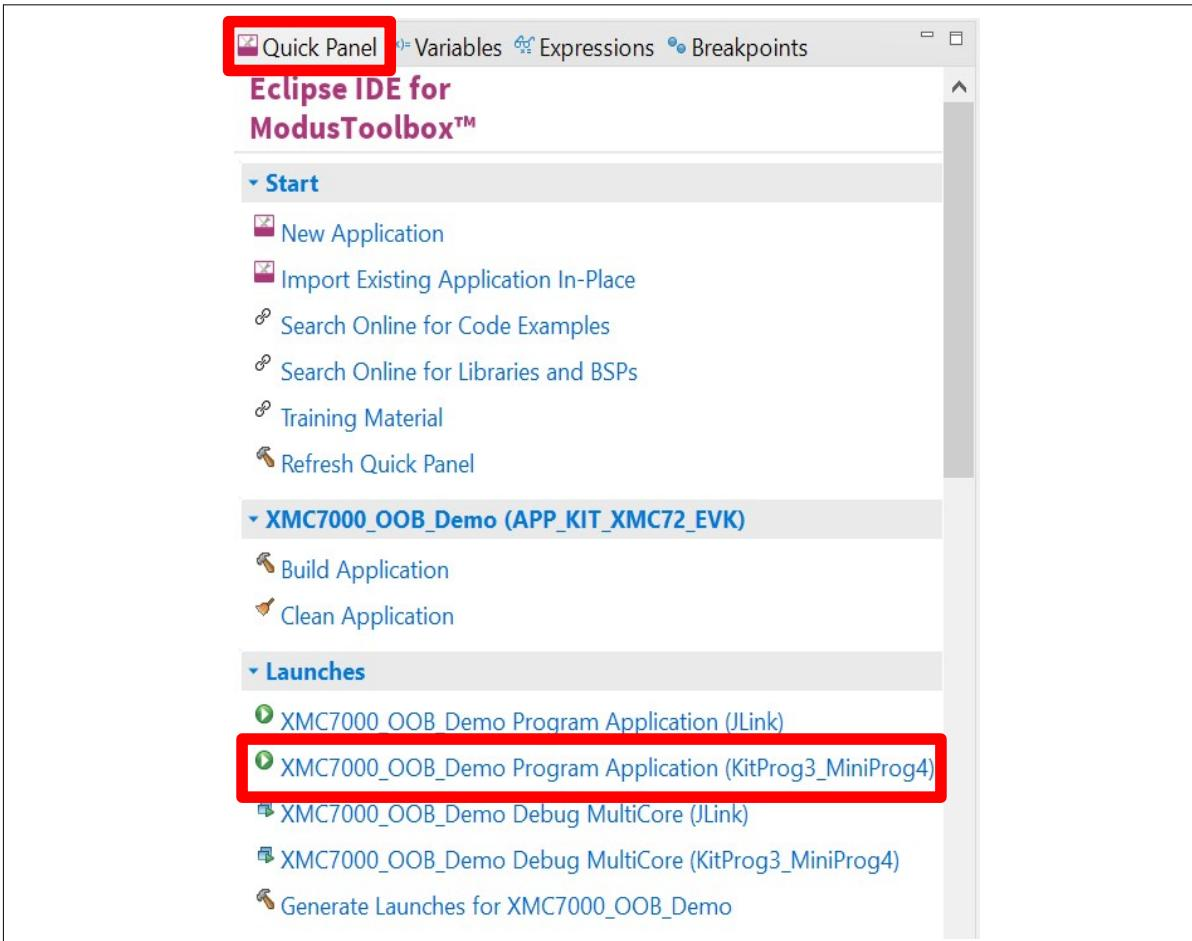

Figure 12 Programming in the ModusToolbox™ software
4. To build and program a XMC7200D application, in the Project Explorer, select <App_Name> project. In the Quick Panel, scroll to the Launches section and click the <App_Name> Program (KitProg3_MiniProg4) configuration as shown in Figure 12